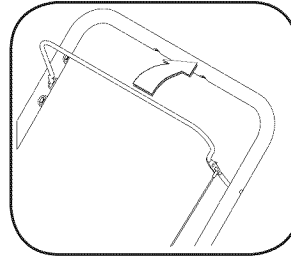

Figure 6
- Position the chute assembly opening by using the Chute Handle to throw the snow in the desired direction. See inset Figure 6.